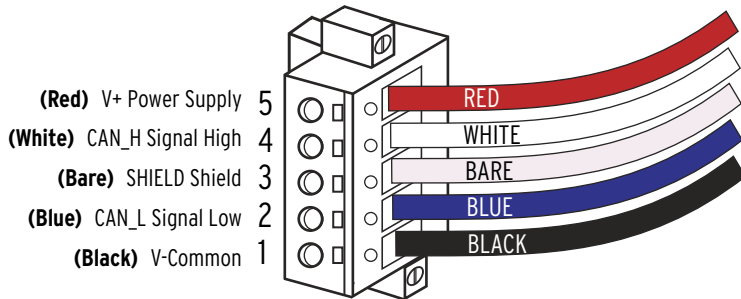

Figure 3 Connecting 5-Pin Linear Plug to DeviceNet Cable
- Step 5. Terminate the bare leads of the DeviceNet cable to the 5-pin linear plug as illustrated in *Figure 3*.